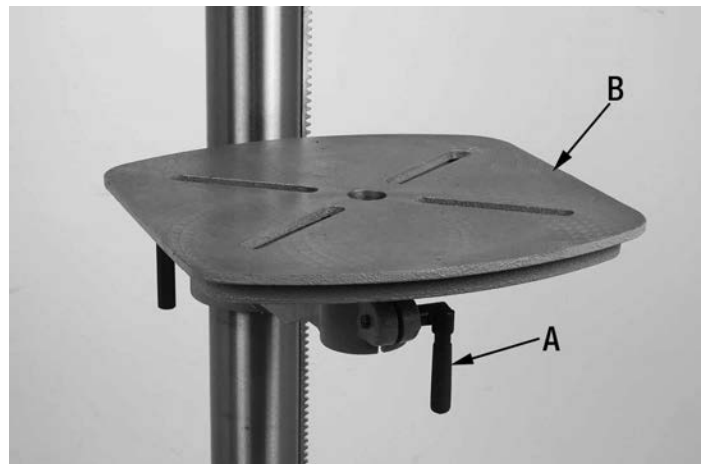

FIGURE 8
- 7) Install the table lock handle (A) Fig.8 to the table support as shown. Do not tighten.
- 8) Slide the table (B) Fig.8 into the opening of the table support. Tighten table lock handle (A).